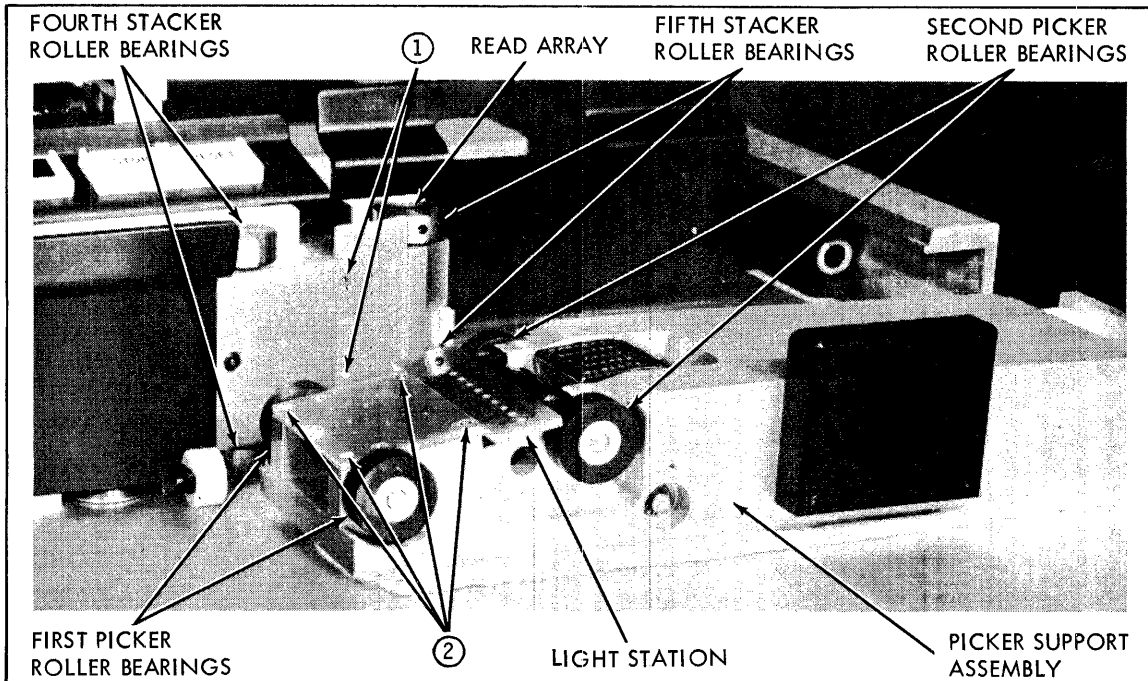

Figure 9-14. Picker Casting Removed From Reader
11. Carefully lift picker support assembly straight up and lay it on cloth on top plate of card reader, figure 9-14.
- d. Using a #1 Phillips screwdriver, remove two screws (1) holding read array, figure 9-14. Remove read array.
- b. Using a #1 Phillips screwdriver, remove four screws (2), figure 9-14. Remove light station from picker support assembly.
- c. To replace fourth stacker roller bearings, figure 9-14, perform the following substeps.
- d. To replace fifth stacker roller bearings, figure 9-14, perform the following substeps.
1. Using a 1/16 Allen wrench, LOOSEN set screw in bottom roller of first picker roller, figure 9-14.